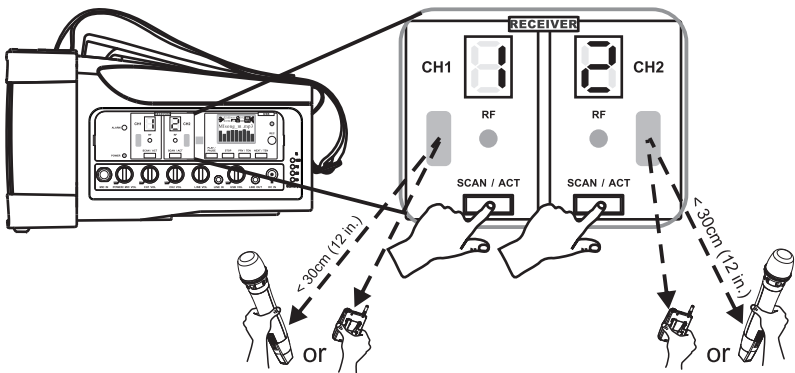

Fig. 6
- (1) Press & hold the SCAN button. Concurrently, turn on the Power Switch/Wireless Mic Volume Control. Press & release the SCAN button will move up to the next available ID code. Turn off the Power Switch/Wireless Mic Volume Control to save this ID CODE.
- (2) Turn on the Power Switch/Wireless Mic Volume Control back on again to perform the ACT synchronization with embedded ID code. Without performing this ACT synchronization step, no sound output because the ID codes has been changed even though the same channel number remains the same.
(F) ACT Synchronization (Sync) between Receiver and Transmitter Channels, Fig. 6:
- (1) Press and release SCAN/ACT button, the current channel blinks and is ready for ACT synchronization.
- (2) Power on handheld or bodypack transmitter. Bring the transmitter sync port (red indicator) within 30 cm (12-inch) of CH 1 or CH 2 receiver sync port.
- (3) Once ACT synchronization is done, the channel screen will stop blinking and RF indicator glows green to indicate a successful RF link.
- (4) To cancel an accidental activation of ACT function, just press SCAN/ACT button again.